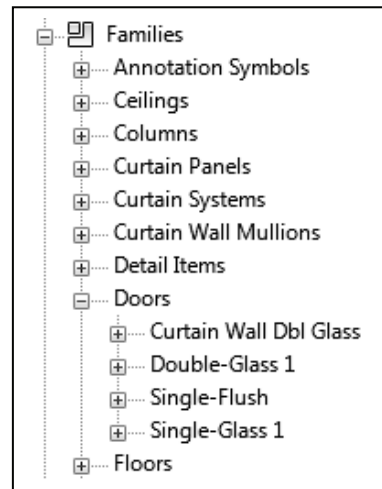

FIGURE 3-5.3 Loaded door families
6. In the *Project Browser*, expand *Families* and *Doors* to see the loaded door families (Figure 3-5.3).